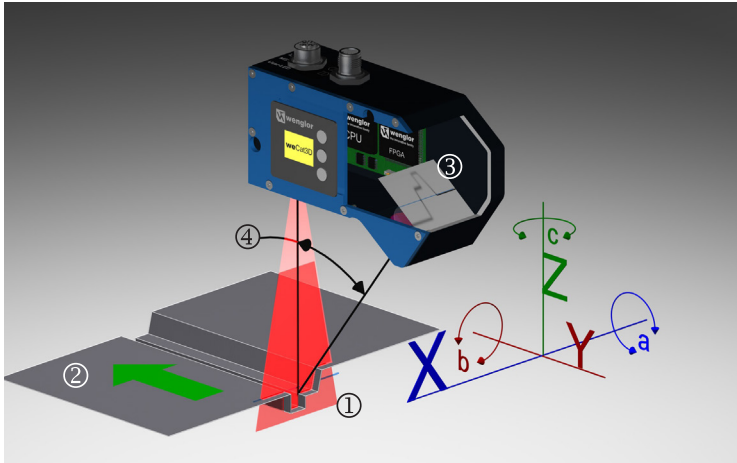

Fig. 1: Function principle of a weCat3D profile sensor
2D/3D Profile Sensors project a laser line (1) onto the object to be detected (2) and generate an accurate, linearized height profile with an internal camera (3) which is set up at a triangulation angle (4), see Fig. 1. Thanks to its uniform, open interface, the weCat3D series can be incorporated directly by a program library (available for Windows and Linux, see section 10), a TCP/IP socket protocol (see section 11), or the GigE Vision standard (see section 12) without an additional control unit. Alternatively, wenglor offers its own software packages for implementing your application. Individualized selection from a great variety of working ranges, laser classes and light types (red and blue light) ensures maximized flexibility for two and three-dimensional object detection.